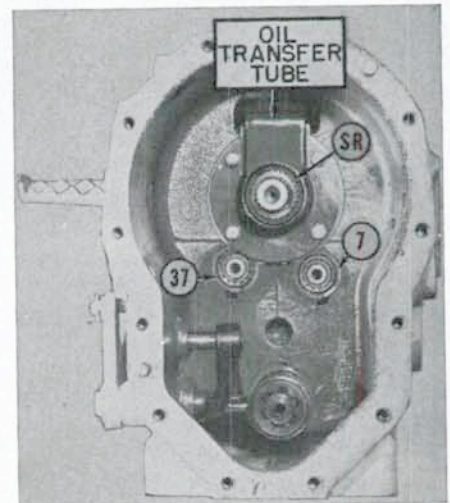

Fig. 145—View into rear end of D-14 and D-15 tube showing the snap ring (7) which must be removed in order to remove the PTO idler gear.
224; then proceed as follows: Remove snap ring (SR—Fig. 145), then unbolt and remove the oil transfer tube and retainer. Remove plug (1—Fig. 144) and snap ring (7); then while driving or pressing shaft (6) toward rear, withdraw bearing (3), spacer (4) and gear (5) through opening in bottom.